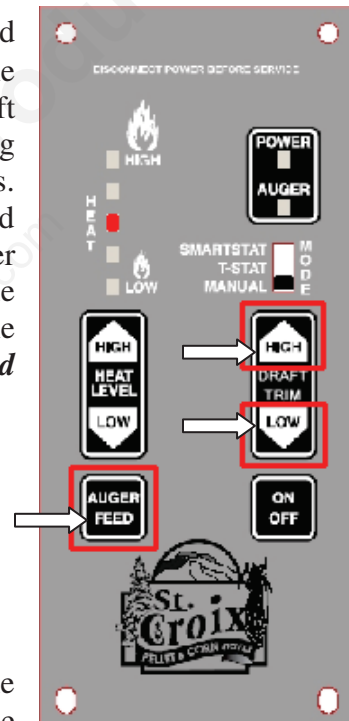

Figure 3
**Draft Adjustment** - The Fan voltages can be fine-tuned while the furnace is in operation by *pressing and holding* the “Auger Feed” button down and then *either* pressing the “Draft Trim High” button to advance the voltages higher, *or* pressing the “Draft Trim Low” button to decrease the fan voltages. There are 5 levels on the control board and they are indicated by a single flash of the LED’s. The default setting is the center LED (see figure 3). This gives 2 adjustments increasing the voltage (LED’s 4 & 5) and 2 adjustments decreasing the voltage. (LED’s 1 & 2) The voltage is *increased or decreased* 2.5 volts with each adjustment.